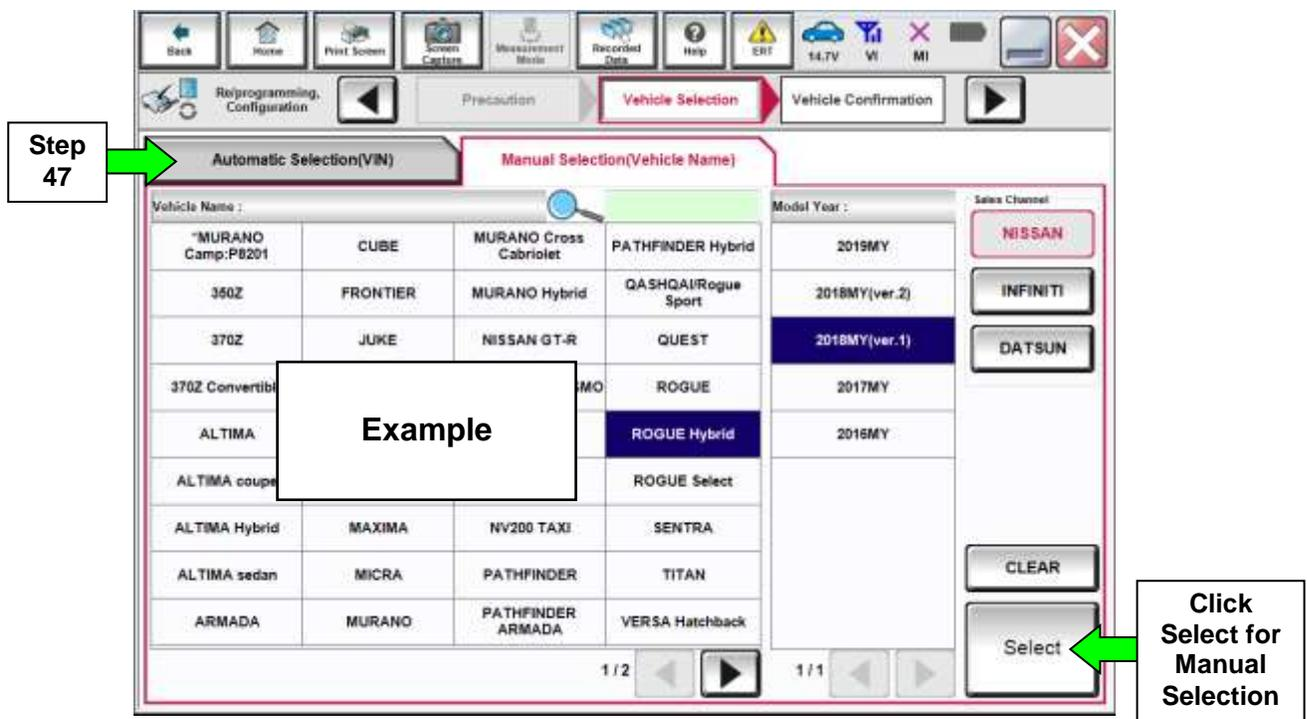

Figure 30
- If the screen in Figure 30 does not display, skip to step 48.